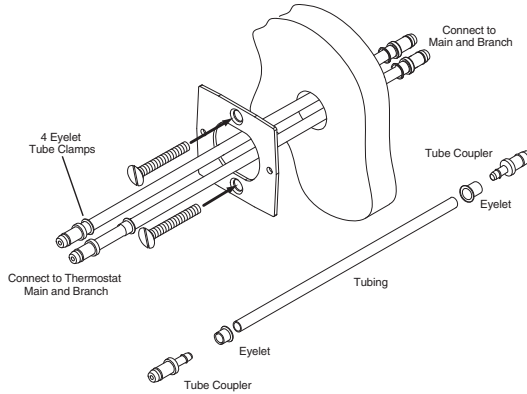

Figure-1
2. Connect the assembly by inserting the tube couplers into existing tubing in the wall (Figure-1). Note which connection is Main and which connection is Branch.
3. Pull tubing through center hole in mounting plate and screw mounting plate to wall with flat head screws. Cut tubing and insert two couplers. The Main and Branch tubing is connected into the corresponding ports on the thermostat (Figure-1).